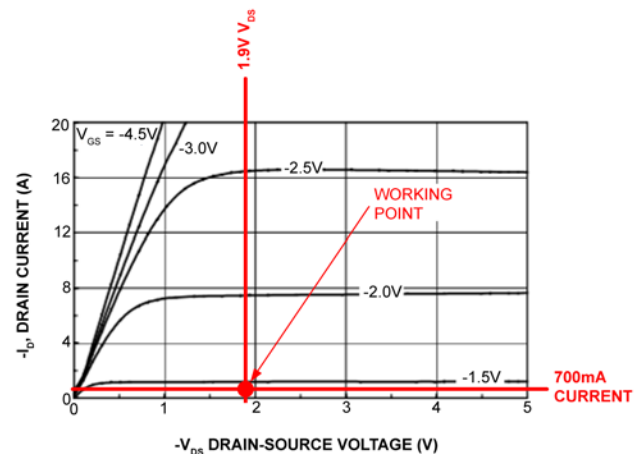

Figure 6. FDT434P Example Used In KS9021 Evaluation Board
- The MOSFET must allow driving the current (i.e. $\approx 700\text{mA}$) at 1.9V VDS (LDO minimum drop-out) with a $-V_{\text{GS}}$ below 2.5V. Figure 6 illustrates the FDT434P example that is used in the KS9021 evaluation board. This parameter is particularly important to note as the MOSFET must be allowed to drive the current required with the swing available on the gate drive at the minimum LDO voltage drop. Additionally, VDSMIN is $(3.3\text{V} - 5\%) - 1.26\text{V} \approx 1.9\text{V}$ and the MOSFET must be able to sustain approximately 700mA at 1.9V VDS.
Per Figure 6, working point shows the MOSFET allows to drive the current at 1.9V voltage drop with a $-V_{GS}$ below 1.5V. The input capacitance (CISS) must be below 2nF and the maximum $R_{DS(on)}$ at 125°C of junction temperature must not exceed 1 Ω .